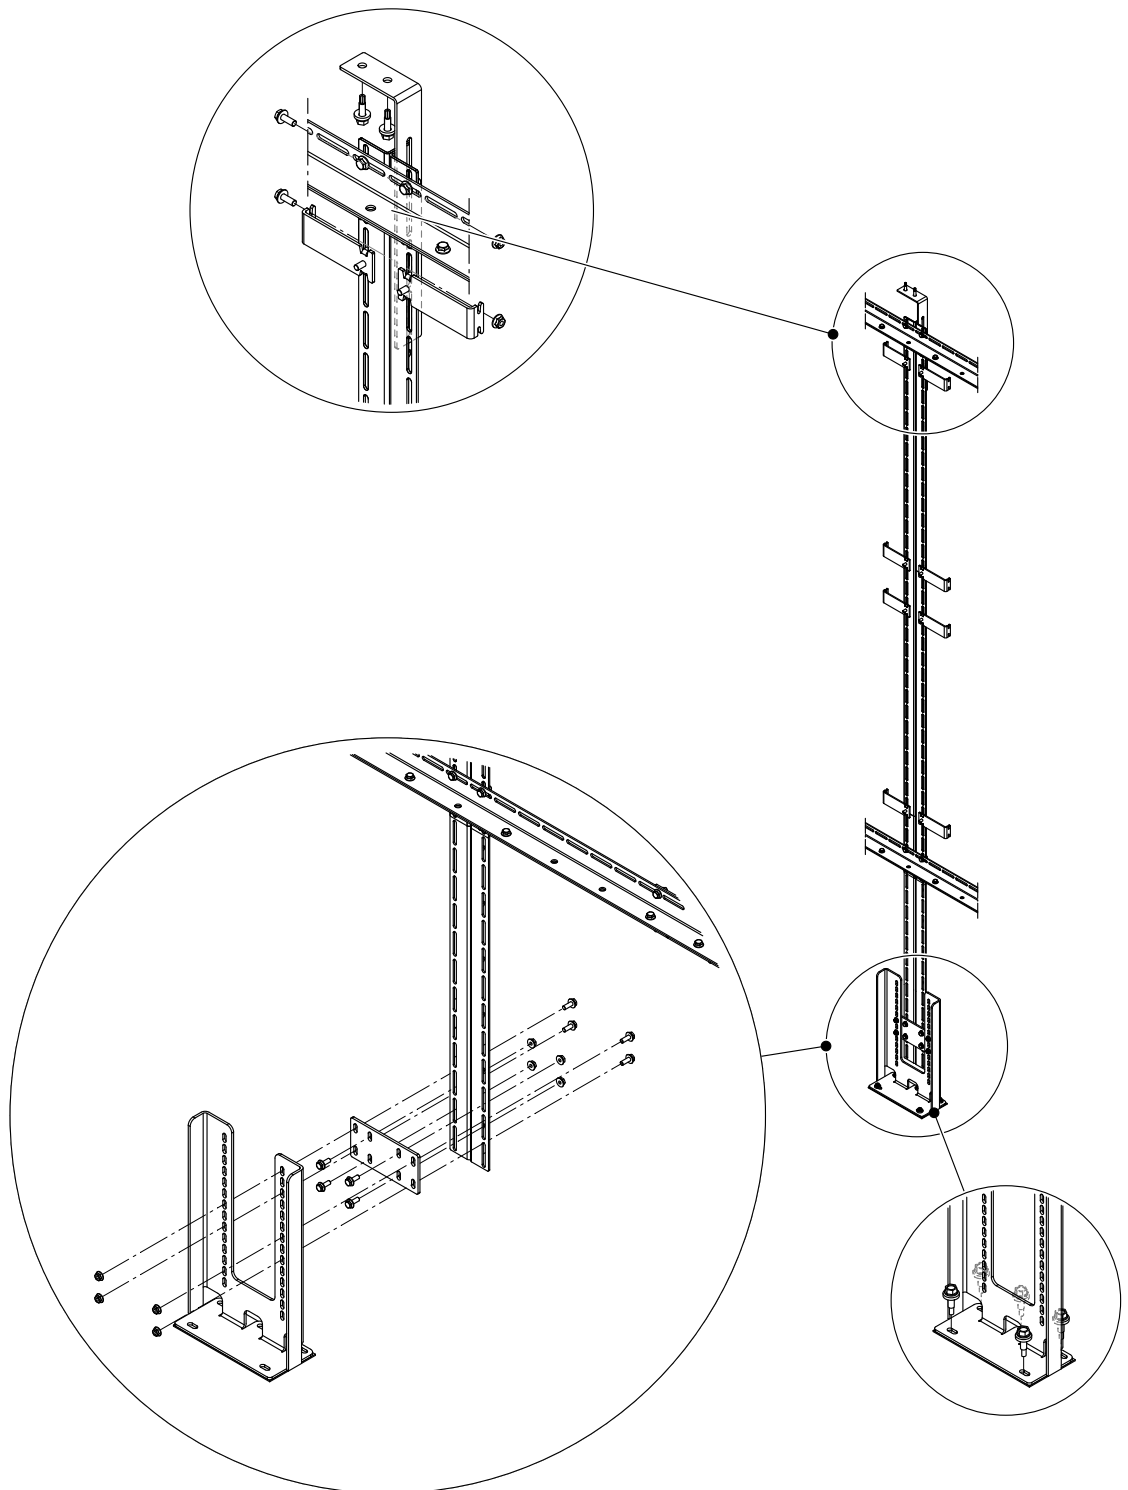

Fig. 29: Mounting the bottom leg support and the angle bracket to the middle vertical support
- If necessary, loosen the two screw connections fixing the angle bracket to the vertical support, push angle bracket to the duct ceiling, then fasten the two screw connections again (see detail A in Fig. 29).
- Fix angle bracket of the vertical support(s) with two self-tapping screws 6.3 x 25 mm to the duct ceiling (see detail A in Fig. 29).